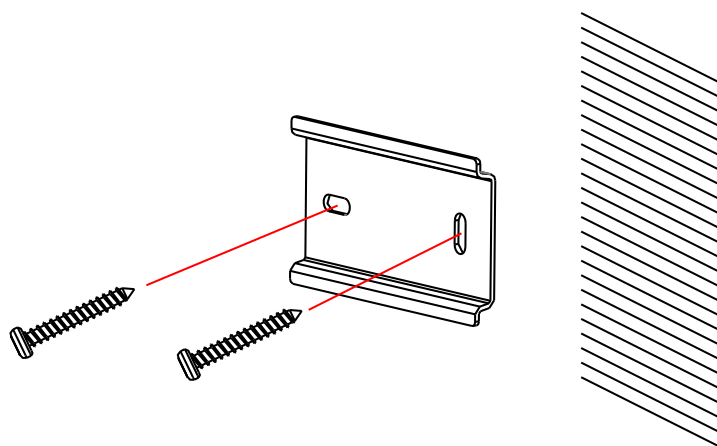

Figure 4-43 Fix the Standard Mounting Rail
1. Fix the standard mounting rail on the mounting surface. As shown in Figure 4-43.